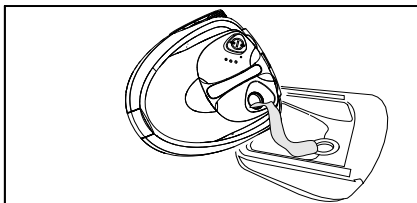

Figure 10
- Empty water out. Tilt the device towards the corner with the funnel inlet (see Fig. 10).